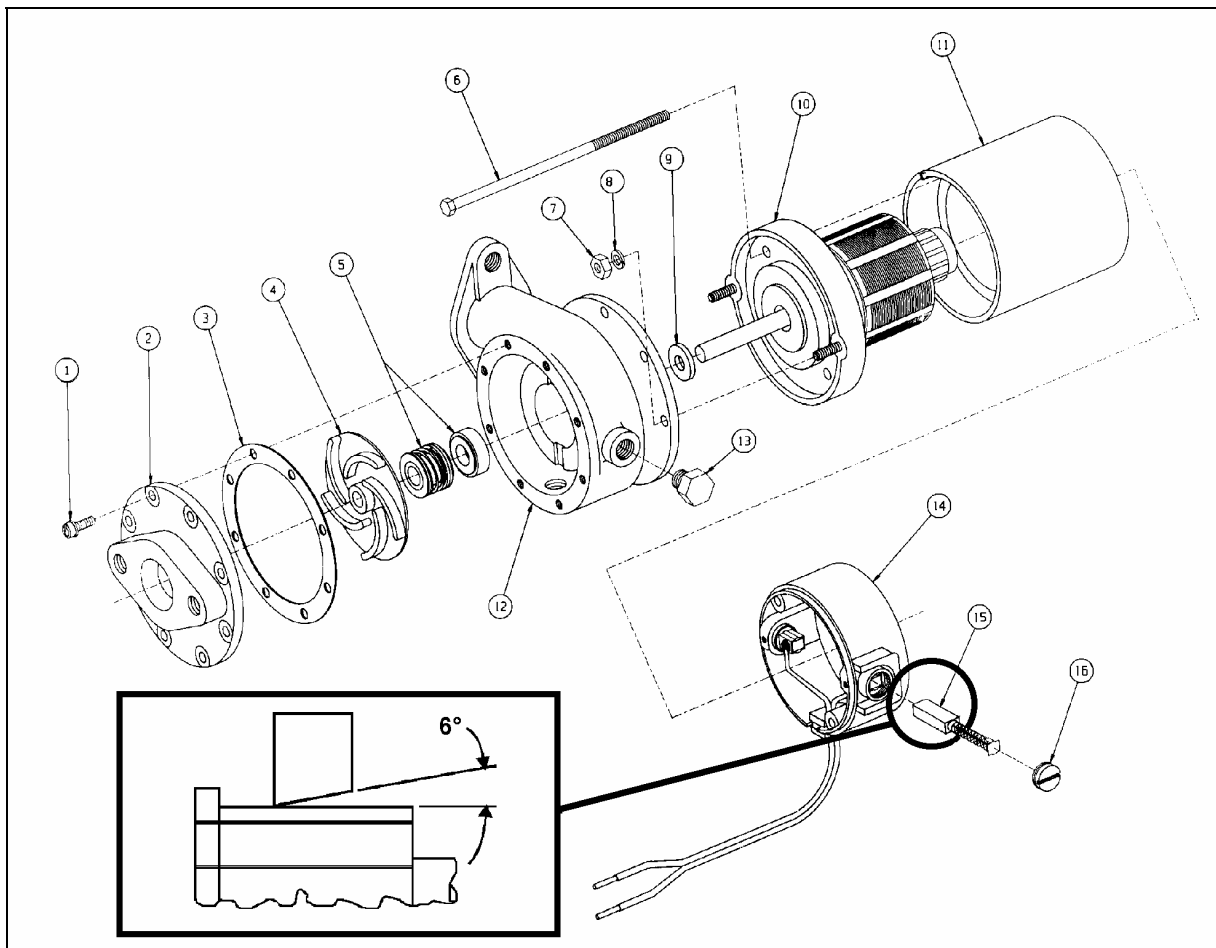

FIGURE 45: WATER RECIRCULATING PUMP
This vehicle is provided with a water recirculating pump which is located in the HVAC compartment (Fig. 45) or on the ceiling of the spare wheel compartment for VIP converted vehicles equipped with a small A/C. The water recirculating pump consists of a centrifugal pump and an electric motor which are mounted on a common shaft in a compact assembly.
Refer to figure 45
- d. New brushes have a six- (6) degree angle. The brush should always be inserted so that the angle is open away from the pump end of the assembly (inset, Fig. 45)
Refer to figure 45.